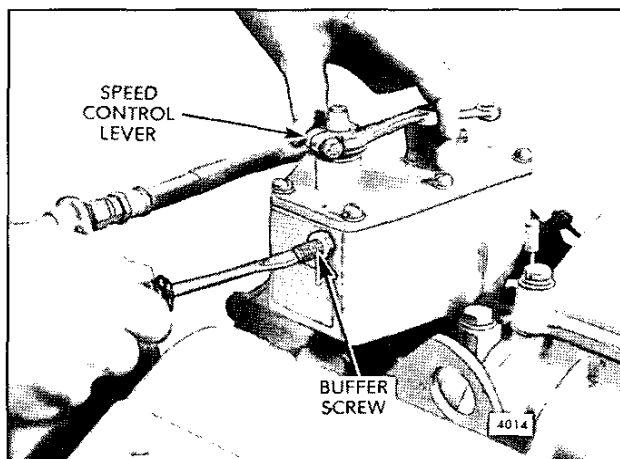

Fig. 10 – Adjusting Buffer Screw
1. With the engine running at normal operating temperature, turn the buffer screw in so it contacts the differential lever as lightly as possible and still eliminates engine roll (Fig. 10).